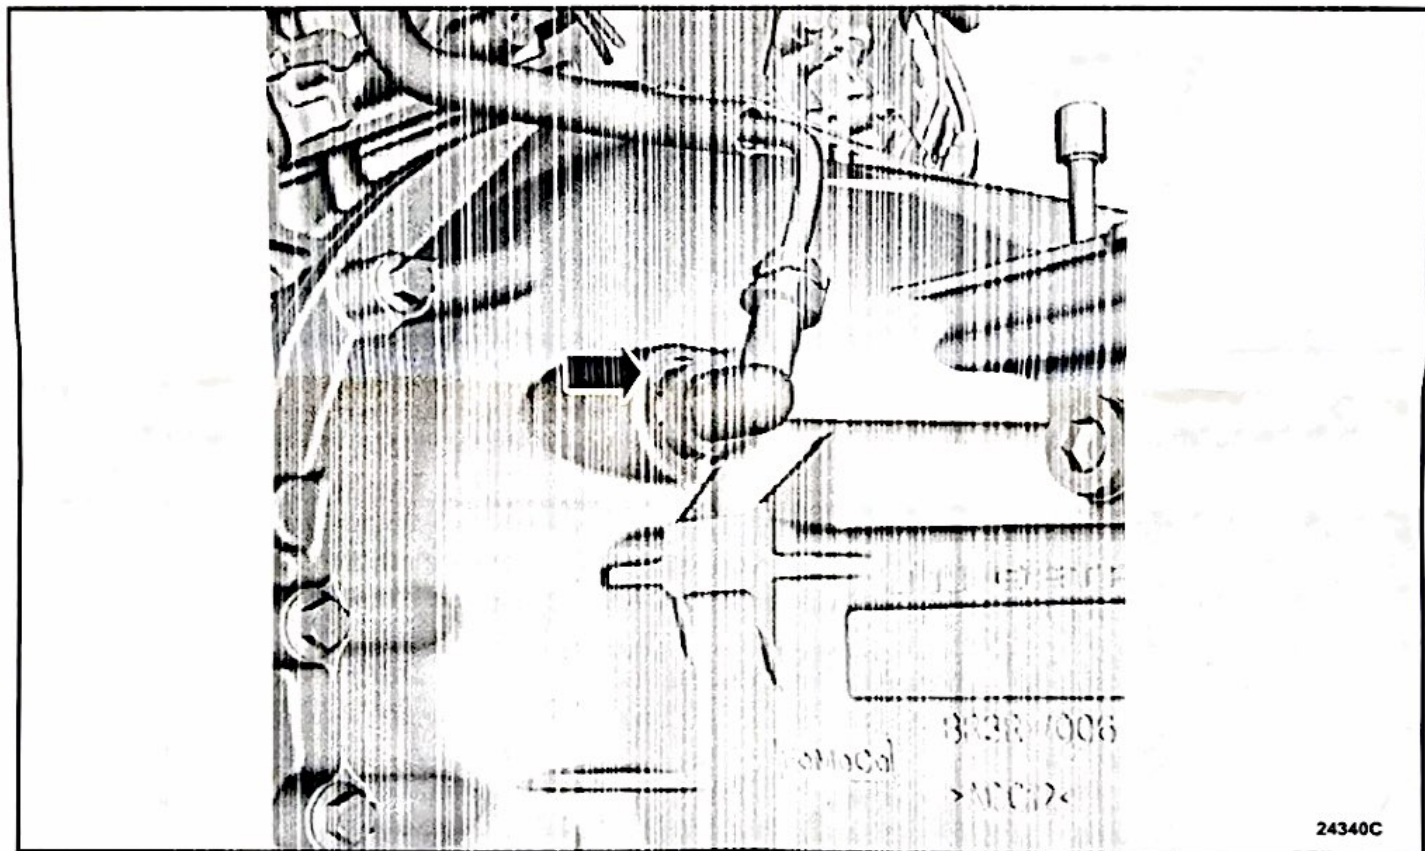

FIGURE 3
2. Remove the retainer and disconnect the clutch master cylinder tube from the clutch master cylinder from the backside of the transmission as shown in Figure 3.
9. Connect the clutch master cylinder tube to the backside of the transmission. See Figure 3.